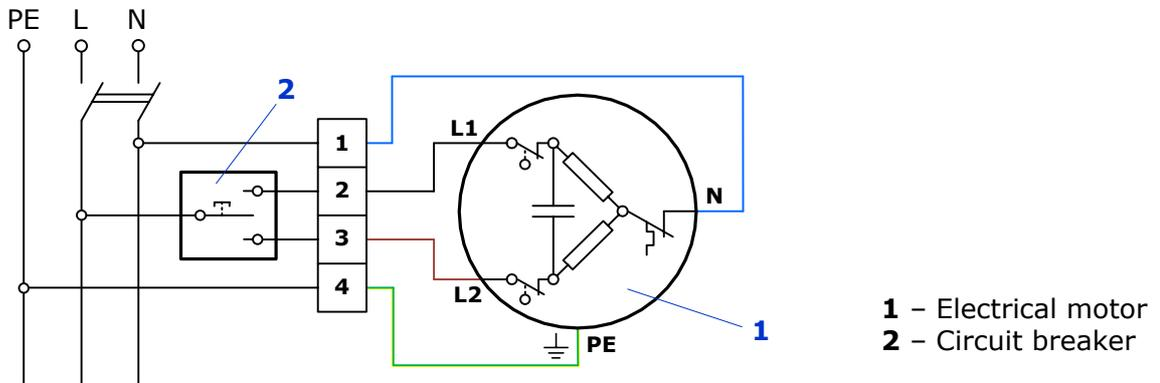

Fig.11 – Electrical interfaces
- Perform the electrical connections (Fig. 11).